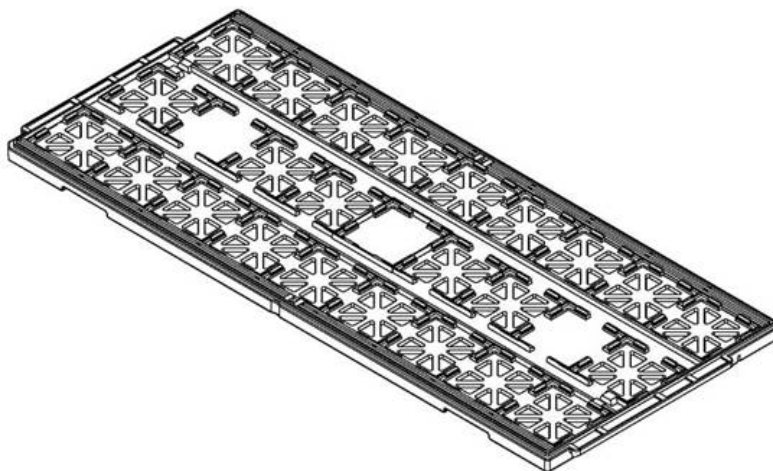

Figure 12. JEDEC Tray Example
- Freescale complies with standard JEDEC tray design configuration - See Figure 12.